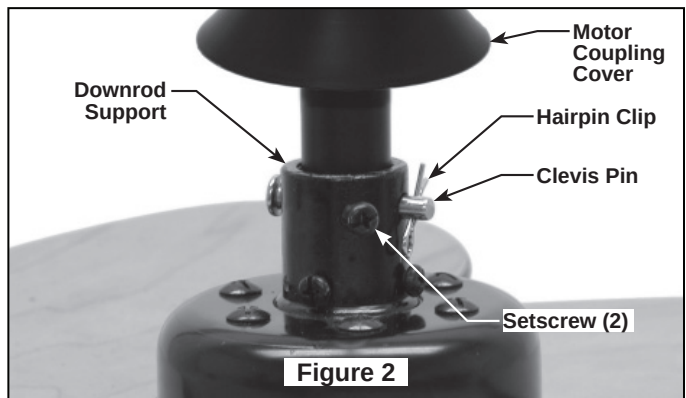

Figure 2
5. Loosen the two setscrews in the Downrod Support. Align the Clevis Pin holes in the Downrod with the holes in the Downrod Support. Install the Clevis Pin and secure with the Hairpin Clip. (Figure 2) Be sure to push the straight leg of the hairpin clip through the hole near the end of the clevis pin until the curved portion of the hairpin clip snaps around the clevis pin. The hairpin clip must be properly installed to prevent the clevis pin from working loose. Pull on the Downrod to make sure the clevis pin is properly installed. (Figure 2)
6. Route wires through opening in Motor Coupling Cover. Position Motor Coupling Cover on fan shown with open side facing down. (Figure 2)